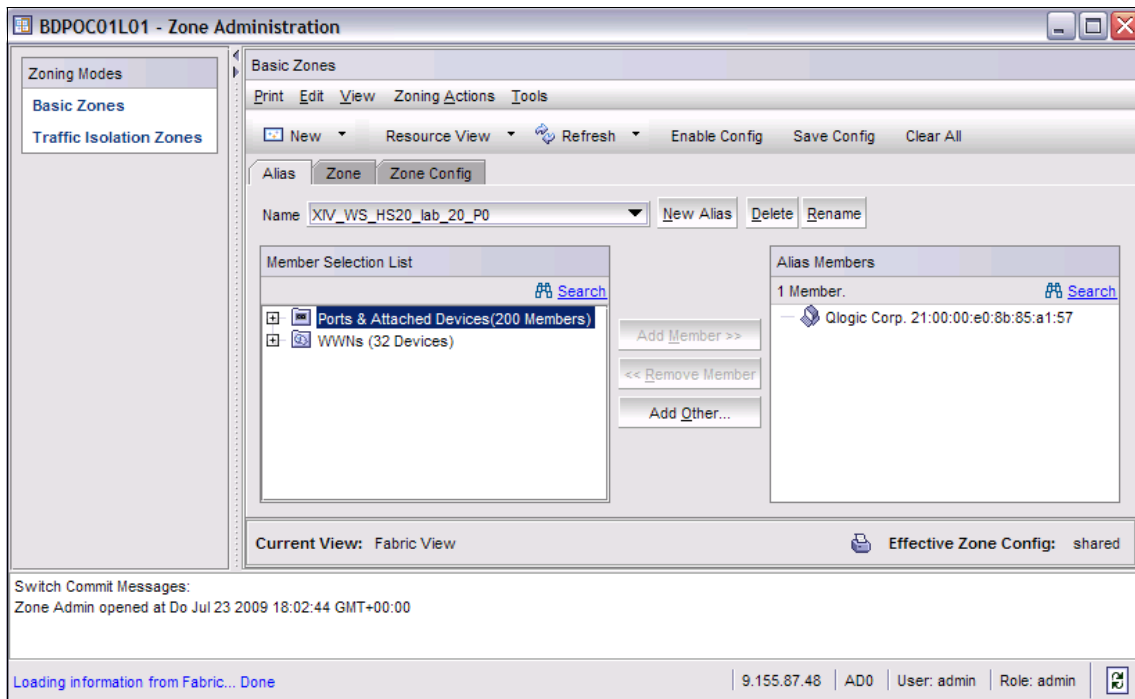

Figure 12-31 Zone Administration window
6. The Zone Admin window opens, as shown in Figure 12-31.